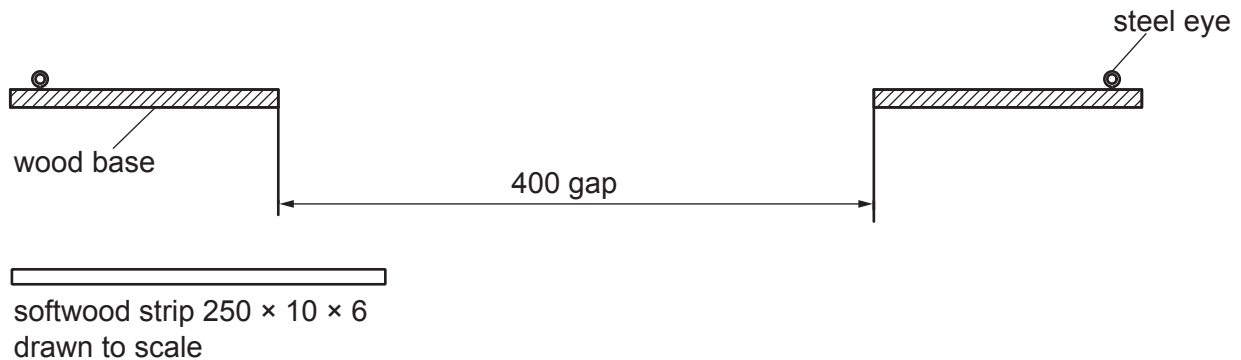

Fig. 10.1
- (i) Fig. 10.1 shows the gap with steel eyes screwed in to anchor the suspension wires.
Using sketches and notes, draw on Fig. 10.1 to show a possible design for the model suspension bridge. Use only the available materials.